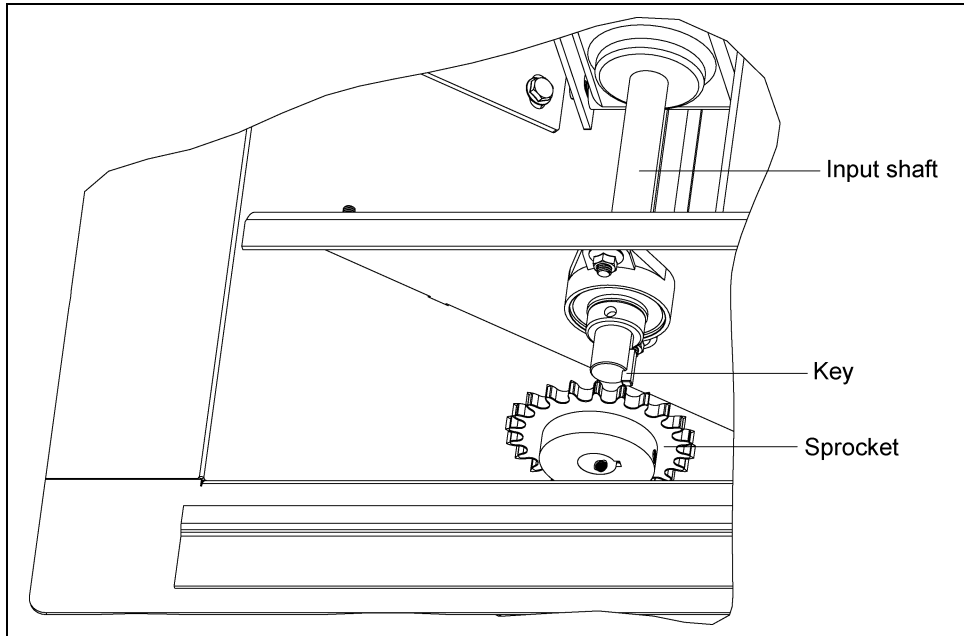

Figure 3C
7. Remove the connecting link from the two (2) ends of the chain.
10. Remove the sprocket and key from the gearbox input shaft as shown in Figure 3C.